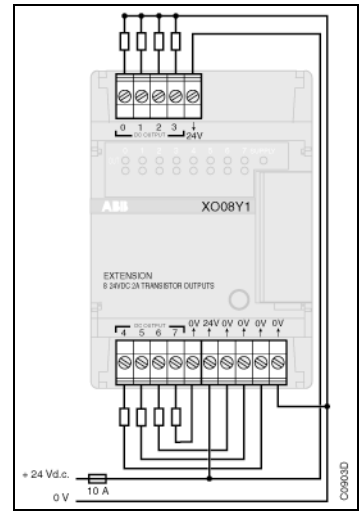

Figure 4-23 : Extension XO 08 Y1
3.6. Extension XO 08 Y1 (see Figure 4-23)